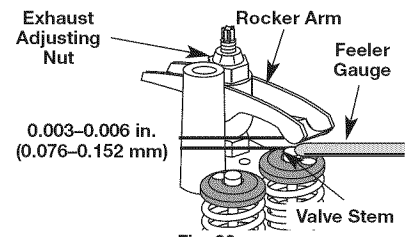

Fig. 30
7. Slide the feeler gauge between the rocker arm and the valve return spring. Measure the clearance between the valve stem and rocker arm (Fig. 30). Measure both the intake and exhaust valves.
- a. Turn the adjusting nut using a 5/16 inch (8 mm) wrench or nut driver (Fig. 30).